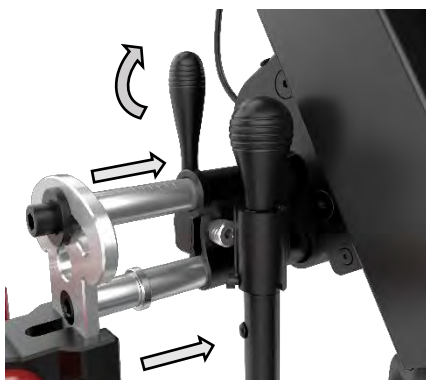

Figure 14. Assembling the Manual Clamp Assembly to the Width Adjustment Assembly
- Insert the Manual Clamp Assembly into the Device with the two Width Adjusting Rods and into the two receiving holes. The QR Lock Levers must be down and loose to receive the Manual Clamp Mechanism. Once the width is established it is locked upright (see Figure 14).